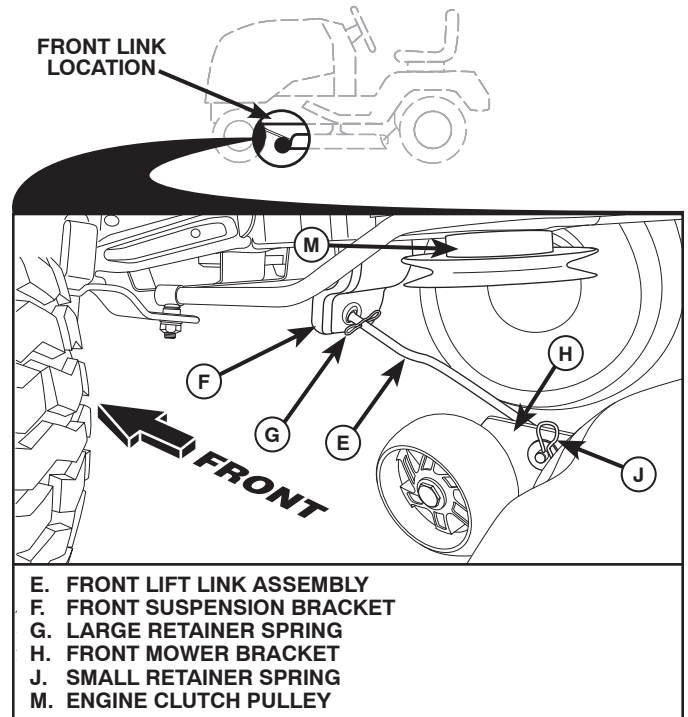

Fig. 30
8 ATTACH FRONT LINK (E) (See Fig.30)
- From front of tractor, insert rod end of front link (E) through front hole in tractor front suspension bracket (F).
- Move to left side of mower and and insert large retainer spring (G) through hole in front link (E) behind front suspension bracket (F).
- Insert other end of link (E) into hole in front mower bracket (H) and secure with washer and small retainer spring (J).